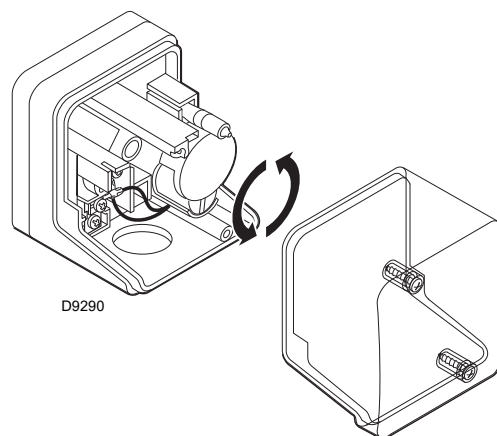

Fig. 52
- adjust the low gas pressure switch to the start of the scale (Fig. 52, page 37);
Adjust the minimum gas pressure switch (Fig. 52) after having adjusted the burner, the gas valves and the gas train stabiliser. With the burner operating at maximum output: